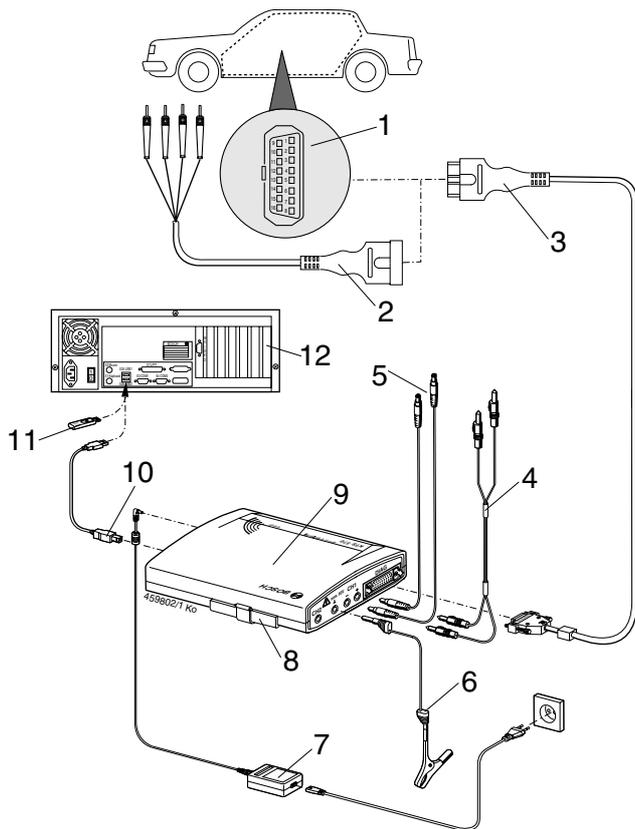

Fig. 3: Connection diagram in an example for the KTS 570
The adapter insert (Fig. 3, Item 8) contains all of the existing capabilities for establishing communication with the vehicle diagnosis interfaces that are known. In order to flexibly adapt to future expansions in diagnosis protocols, the adapter insert can be changed quickly without any tools.
- the OBD diagnostics cable (Fig. 3, item 3) or
- the OBD diagnostics cable and the UNI connecting cable (Fig. 3, item 2) or
! The connection to the diagnosis interface in the vehicle takes place via the OBD-diagnosis cable (Fig. 3, Pos. 3) or additionally via the UNI-connection cable (Fig. 3, Pos. 2) and vehicle-specific adapter cables (special accessories).